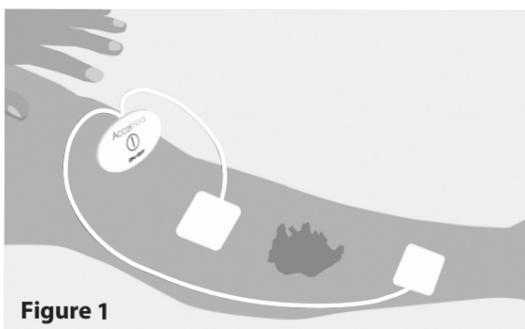

Figure 1
1. Before attaching the electrode pads, clean the skin with the alcohol wipes included in the pack. Attach two electrode pads to healthy unbroken skin either side of, and in close proximity to, the wound or dressing area. Figure 1.